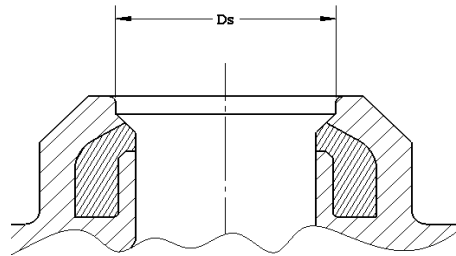

Figure 22: Critical Seat Dimension
2. Referring to Figure 22, measure the diameter  $D_s$  of the nozzle. This diameter must be in the range of values listed in Table 3.